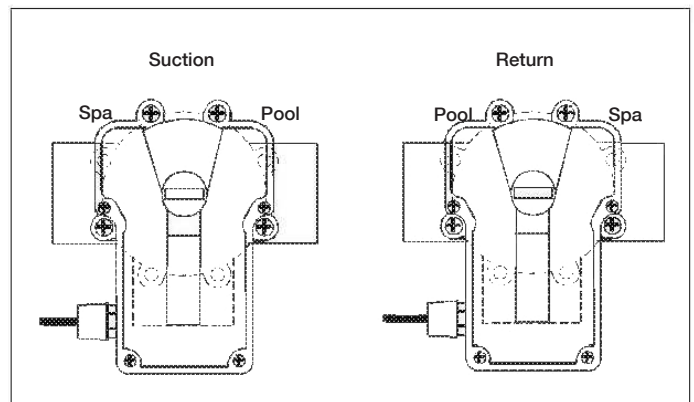
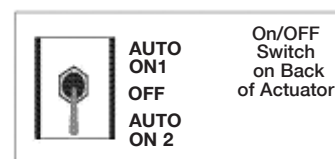

Figure 7. Synchronization, Example.
Figure 8. Synchronization, Toggle.
Figure 7 on the right represents the valves and actuators for a pool/spa combination. The valve on the left (spa on left and pool on right) is plumbed just the opposite as the one on the right (pool on left and spa on right). If the actuators are now activated one will turn to spa while the other is turning to pool. Changing the cam settings within the actuator will not correct this problem. To synchronize the actuators, flip the toggle switch at the rear of the actuator (which is out of sync) to the extreme opposite position. (See figure 8. Note: center position is OFF).
1. Move toggle switch at the rear of the Actuator from position 1 to position 2 (See figure 8) or vice versa until desired rotation is reached. Move toggle switch to center position to stop rotation of valve diverter.
2. Loosen the hand-locking knob (4) four full turns.
5. Tighten the locking knob on top of the handle and return toggle switch back to its original AUTO position (See figure 8).